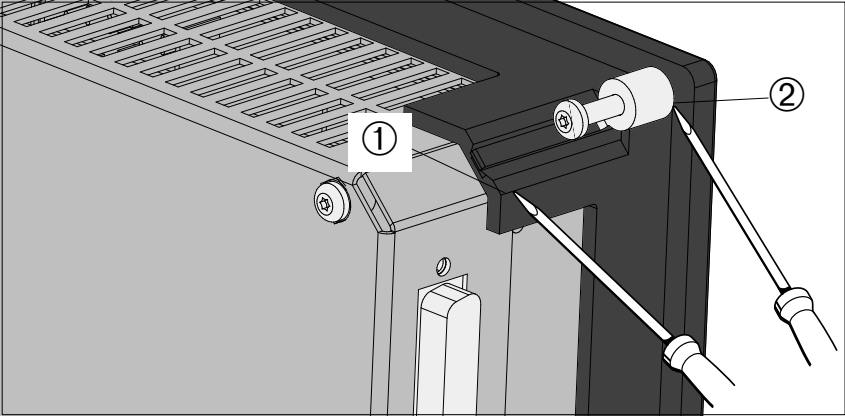

Figure 2-5 Removing the Securing Post
2.	Lever the securing post upwards (① in Figure 2-5).
3.	Lever the securing post out of the guide (② in Figure 2-5).